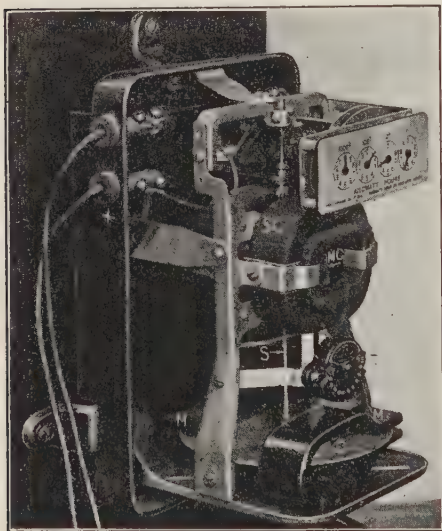

FIGURE 403.—WATT-HOUR METER.
**266. Watt-hour Meters.** — This is the correct name for the meters installed in our homes which we commonly call “electric meters.” The direct-current watt-hour meter has stationary coils (Figure 403, *SC*) and movable coils (*MC*) like the wattmeter. The movable coil, however, has a commutator and brushes like a motor. The meter is in fact an electric motor that drives a train of wheels and axles, like those of a clock. Each of these wheels has 10 times as many teeth as the next axle and is provided with a pointer that moves over a dial. The numbers of the successive dials correspond to units, tens, hundreds, etc., of kilowatts. The faster the movable coil turns and the longer it turns, the larger the number of kilowatt-hours registered on the dials.